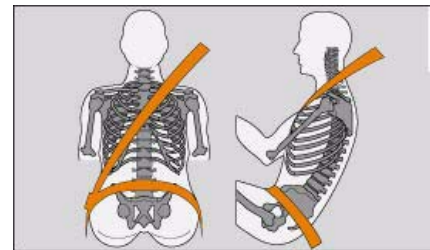

Fig. 184 Adjusting shoulder and lap belt ▶
- The diagonal part of the belt should never be positioned across the neck, but roughly over the centre of the shoulder; it should fit closely against the upper part of the body. The lap part of the belt must be worn tightly across the hips, and not over the abdomen ⇒ *page 173, fig. 184*. Pull the belt tight if necessary to take up any slack.